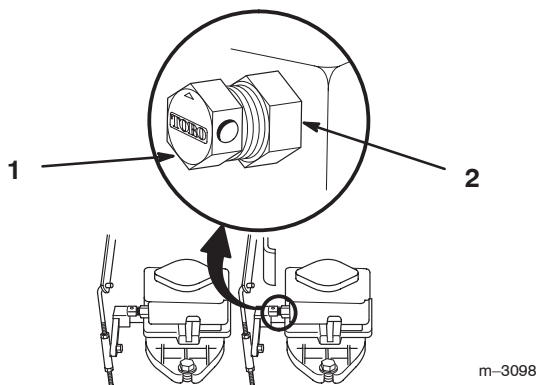

Figure 13
2. Loosen jam nuts and rotate by-pass valves open 5 turns to push. This allows hydraulic fluid to by-pass the pump and the wheels to turn (Fig. 13).